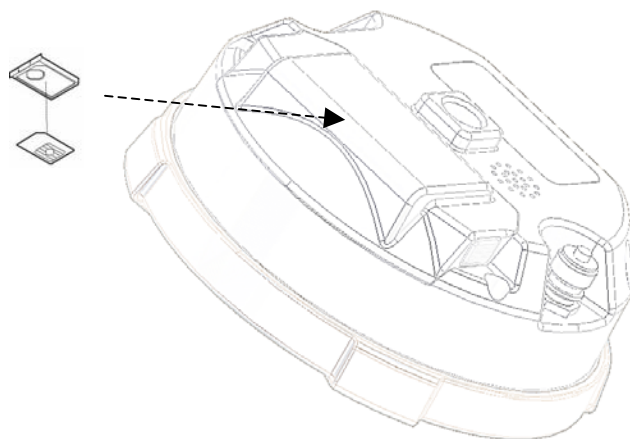

Figure 2-7. Install SIM Card
**To install the SIM card** ( Figure 2-7 ):